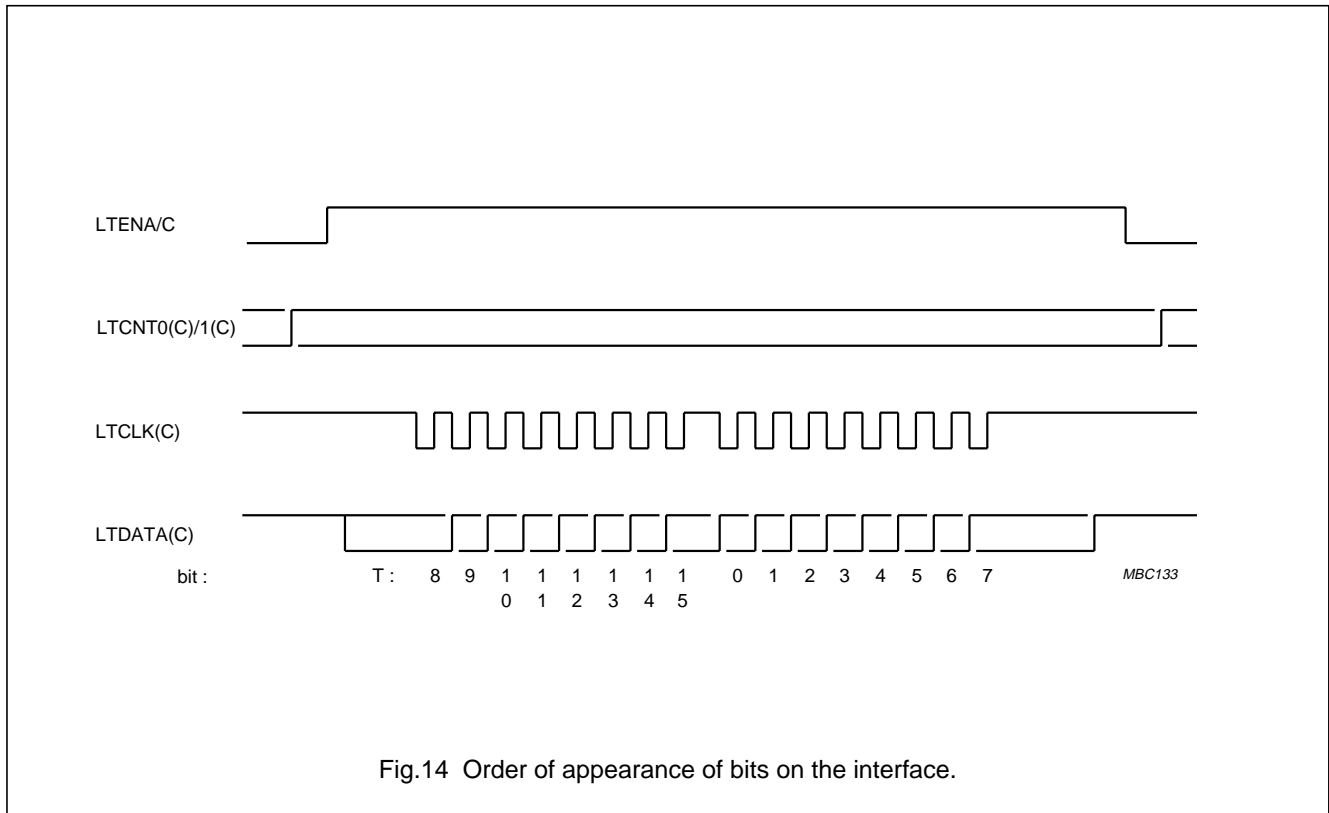

Fig.14 Order of appearance of bits on the interface.
**Table 10** Order of SAA2520 bits as they appear on the interface (see also Fig.14).